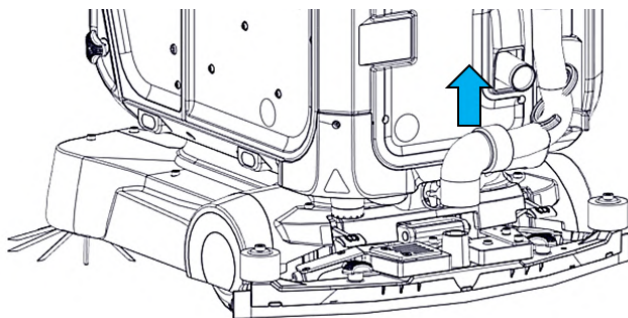

FIGURE 10-18
1. Remove the squeegee hose (**Fig. 10-18**), keeping a cloth handy in case of dirty water spillage.